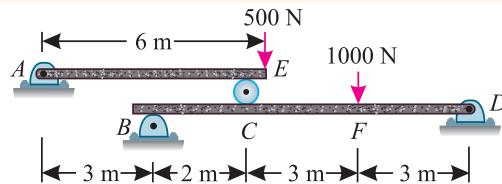

Fig. 16.6.
**Example 16.3.** Two beams AE and BD are supported on rollers at B and C as shown in Fig. 16.6.